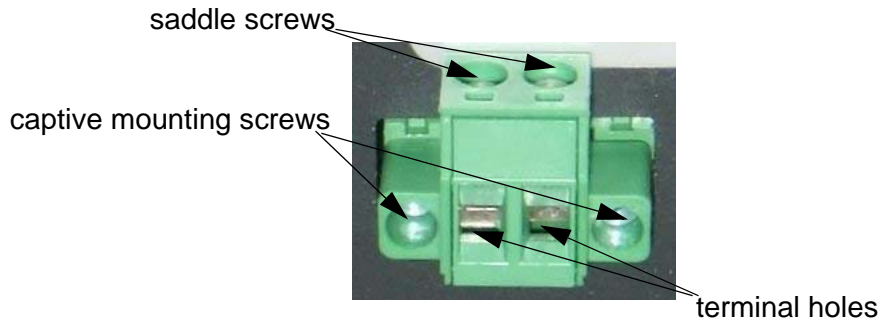

Figure 2-7. Non-Polarized Power Input
- multi-mode (MM) fiber cables defined by the Telcordia Technologies General Recommendation 20-CORE standard
- cable firmly attached to the terminal holes of the non-polarized power unit, as illustrated in Figure 2-7.